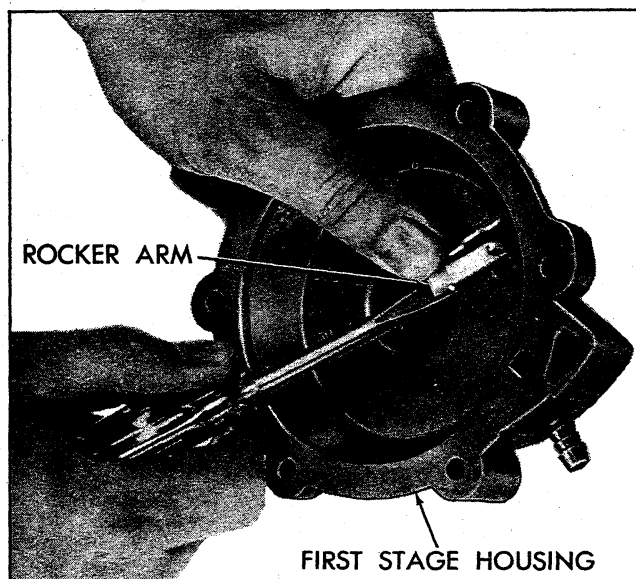

Fig. 20 - Removing Rocker Arm
6. If necessary, remove rocker and swivel arms. Position pin for removal by prying with screw driver, (fig. 20). Grip pin with water pump pliers and remove pin. Remove swivel arm, rocker arm and bushings.